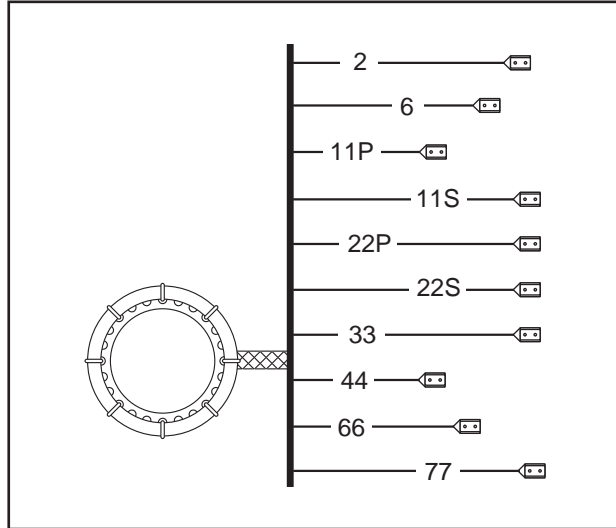

Figure 3 Stator Assembly Leads
The stator can houses and retains (a) dual AC power windings, (b) excitation winding, and (c) battery charge winding. A total of ten (10) stator leads are brought out of the stator can as shown in Figure 3.